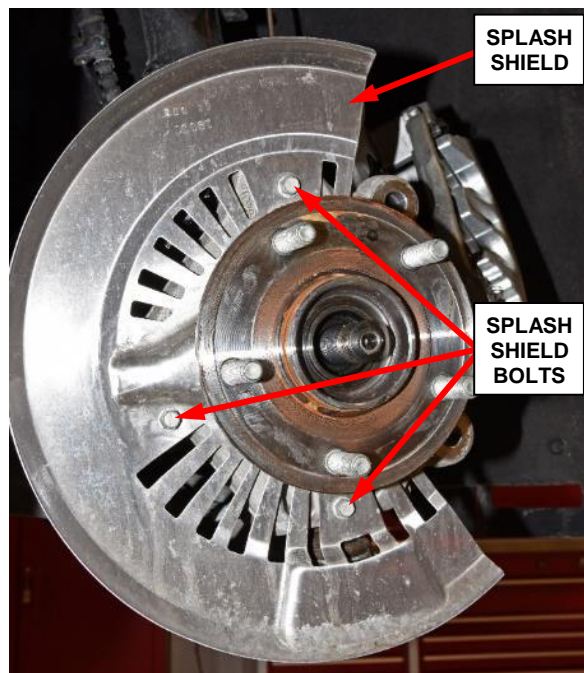

Figure 8 – Brake Rotor Splash Shield
7. Remove and SAVE the three bolts securing the brake rotor splash shield to the steering knuckle, then remove the splash shield (Figure 8).
43. Install the brake rotor splash shield to the steering knuckle and install the three mounting bolts securing the splash shield. Tighten the bolts to 8 N·m (71 in. lbs.) (Figure 8).